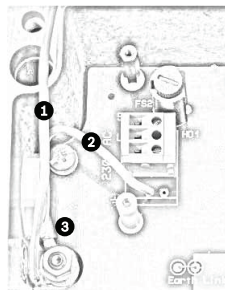

Figure 4.6 Mains input with shield removed, showing terminal block HD1 before wiring
11. Remove the brass nut and copper washer from the earth termination post (item 3, *Figure 4.6*); set these aside.
13. Insert the earth core from the mains cord (item 2, *Figure 4.6*) into the crimp portion (size M6, UL-certified) of the ring terminal and crimp it in place.